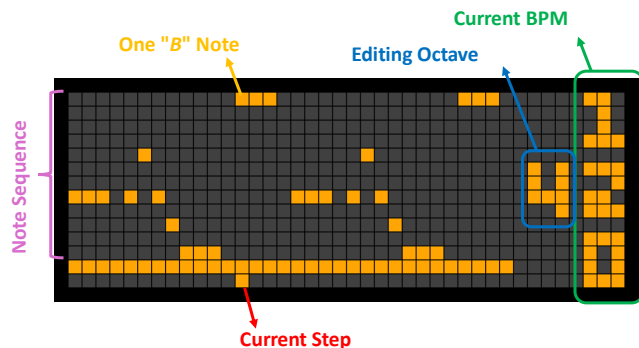

Figure 1: LED matrix display
- **Display:** The LED matrix provides real-time visualization. It shows the entire 32-step note sequence, and it features a dedicated sector utilizing a custom 3x4 pixel font to display the current BPM and editing octave, while the remaining LEDs indicate the active/current step (and a separator line) (See figure 1).